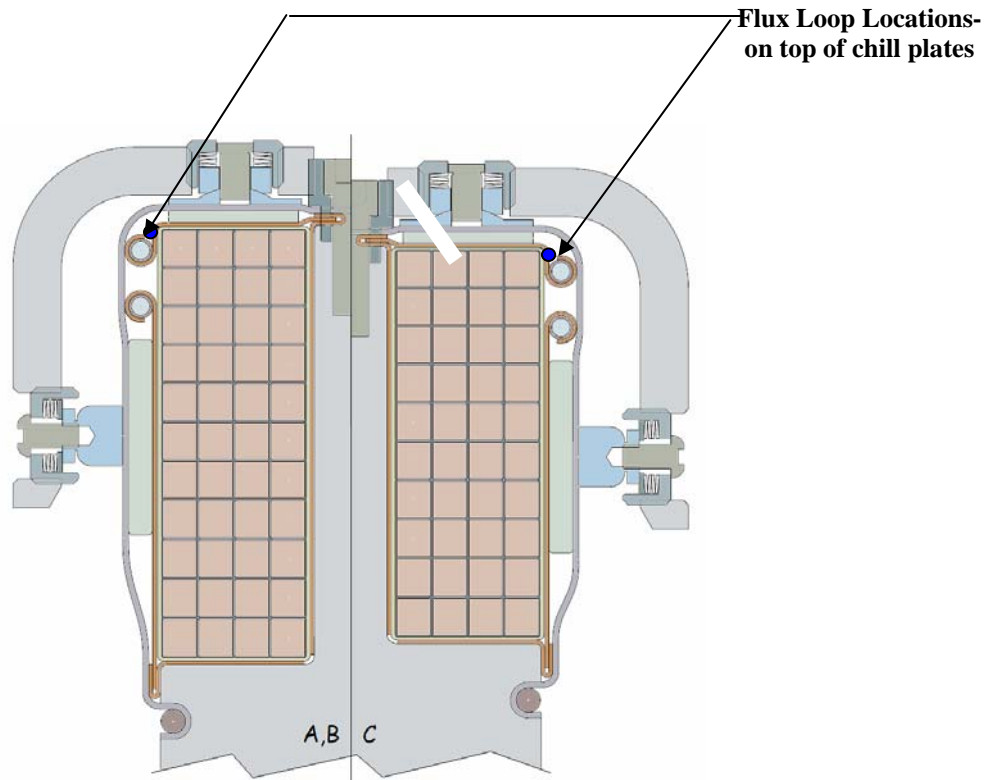

Figure 36-Diagnostic Loops
- 6.34.1 Diagnostic flux loops are to be positioned on the outside surface of the chill plates, just above the upper cooling tube as identified in Figure 36-Diagnostic Loops. Actual position will be determined by NCSX drawings and the Diagnostic representative.